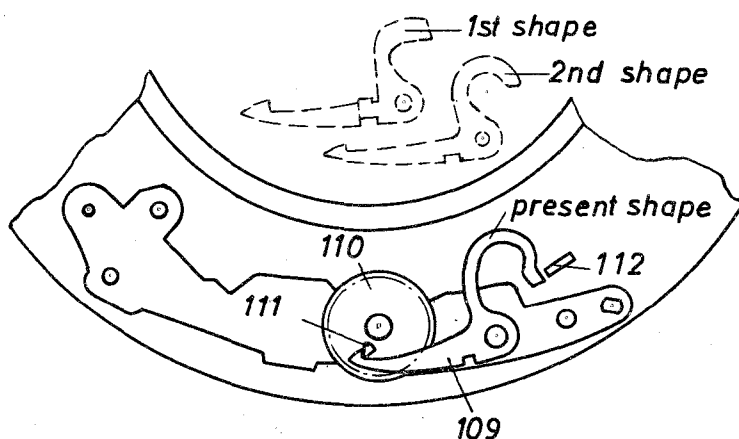

Fig. 16a
(2) The drive spring of the PRONTOR-SVS synchronizer and delayed-action device is weaker than the corresponding spring of the PRONTOR-SV. Therefore, when removing and installing this spring, extreme care must be exercised not to distort the spring, as this would impair the dependability of the synchronizer and delayed-action device. Distorted springs must never be used again; use new springs instead.
(3) At the end of the cocking operation, the synchronizer and delayed-action device is locked by the locking lever 109 which then engages the locking pin 111 carried by first drive pinion 110 (see Figs. 16a and 16b).
In PRONTOR-SVS shutters, the upturned lug 112 of the drive ring serves to operate the locking lever in order to release the mechanism. In the course of time the design of the releasing arms of the locking levers was changed; the various shapes being indicated in dotted lines in Figs. 16a and 16b.